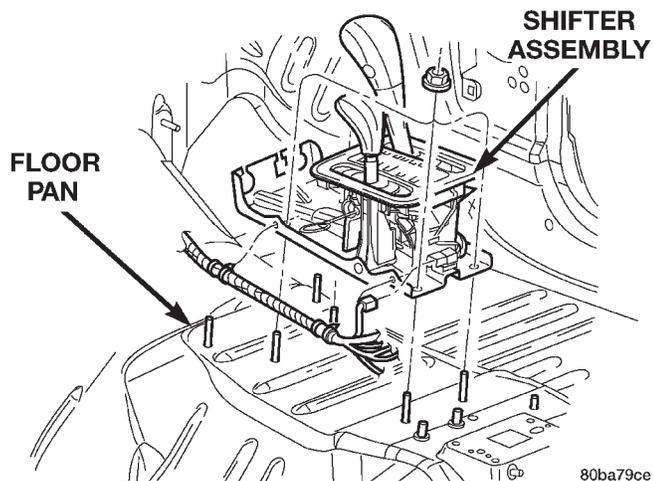

Fig. 41 Shifter Assembly
(1) Install the shifter in the vehicle.
(2) Install the shifter assembly retaining nuts on the floor pan mounted studs (Fig. 41). Torque to 28 N·m (250 in. lbs.).